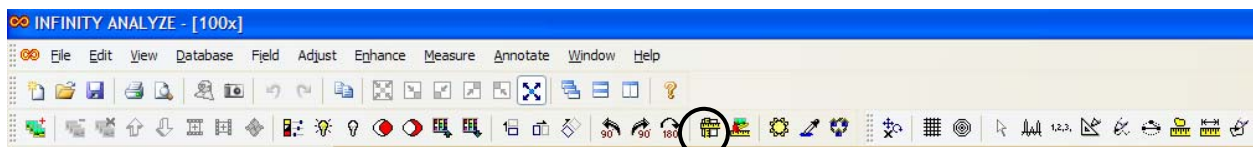

Figure 1: Calibration Icon
Step 2: Using the captured image of the stage micrometer as the active image, select the *Calibration* icon as shown in Figure 1.